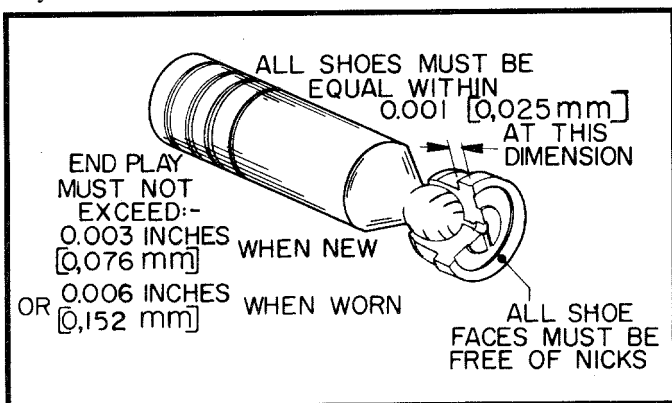

Figure 9. Piston and Shoe Inspection (511783).
See Figure 9. Piston shoes must pivot smoothly, but end play should not exceed 0.006" (0,152 mm). Check end play as follows: Place square end of piston on bench and hold down firmly. Pull on end of shoe with other hand and note end play. The shoe must rotate and pivot on the piston ball. Inspect each shoe face for nicks and scratches. Measure shoe thickness [the part held between shoe retainer (14) and swashblock (11)]. All shoes must be equal within 0.001" (0,025 mm). If a single piston/shoe assembly needs to be replaced, all piston/shoe assemblies must be replaced. Replace as part of Piston/Shoe Kit No. 87. When installing a new rotating group kit, make sure pistons are free in their bores.